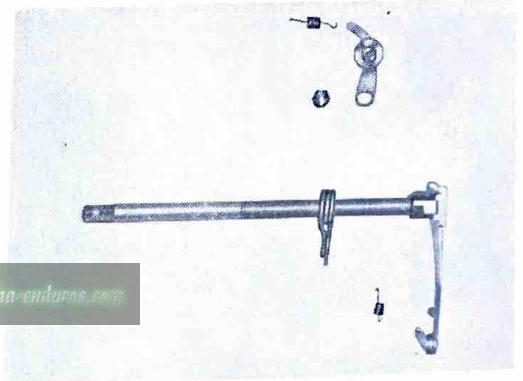

Fig. 3-12-5
(Fig. 3-12-5)
- c. Check point "1" (Fig. 3-12-5) for damage and point "2" for bending replace as necessary.